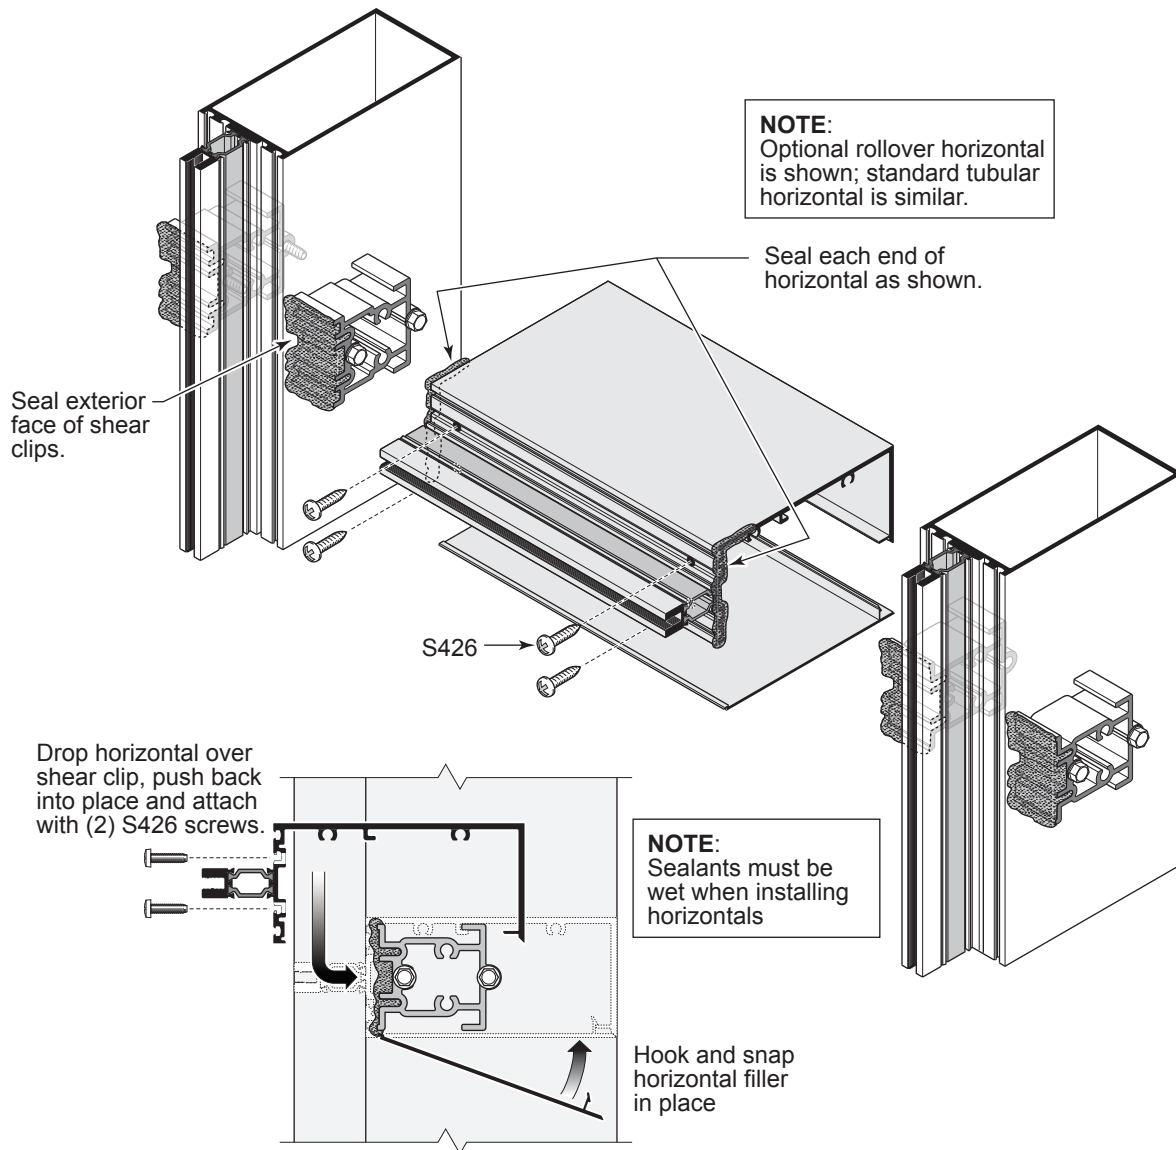

Fig. 36.1
- A. Seal shear clip prior to installing the horizontal member. See **Fig. 36.1**.